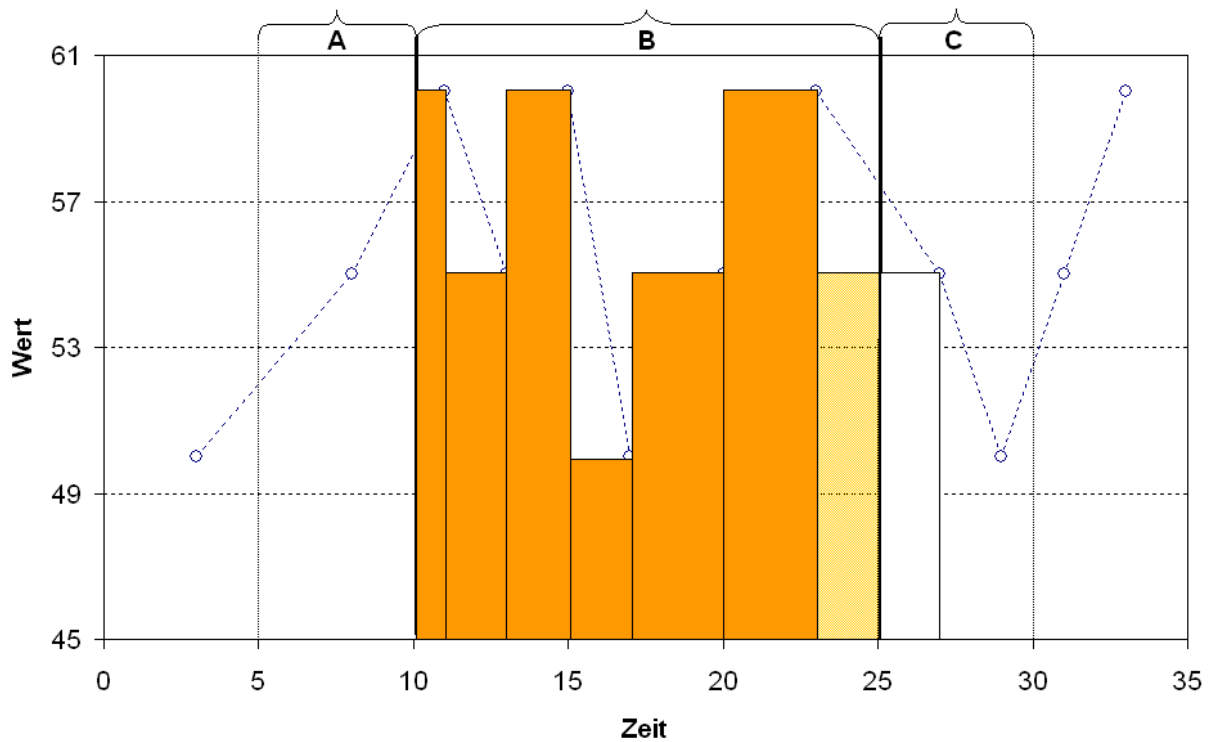

Fig. 24: Data aggregation → *Weighted mean end*
k) *Weighted mean end*: time-weighted average in the interval (B). Values are interpreted as the end of a change in state. Depending on the setting the overlapping range (A and C) is taken into account for determining the weighted average (Fig. 24).